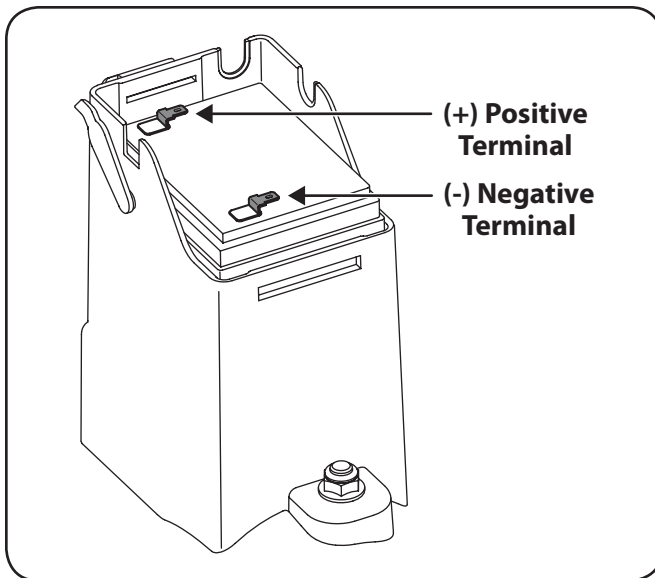

Figure 7-3
3. Replace with new battery. Connect the positive lead (red) to the positive side of the battery pack, then connect the negative lead (black) to the negative side. See Fig. 7-3.